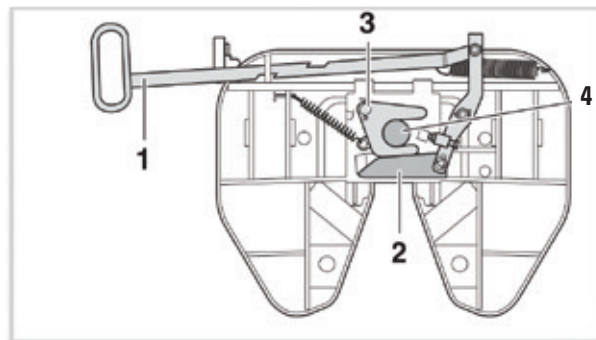

fig.9
- Ralla a perno chiusa e assicurata (fig.9).
- Closed and secured fifth wheel (fig.9).